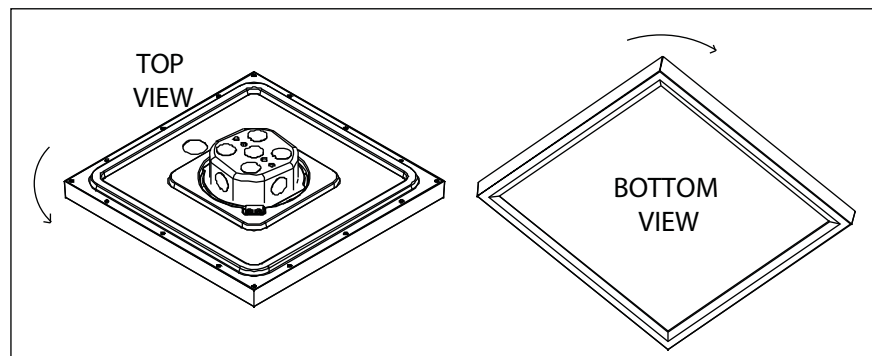

Figure 6
8. Using sticker on the fixture (reference point for mounting tab) and on the ceiling as reference point, lift fixture up to the ceiling and rotate clockwise until fixture is secured (90-degree full turn until it locks). See Fig. 6.